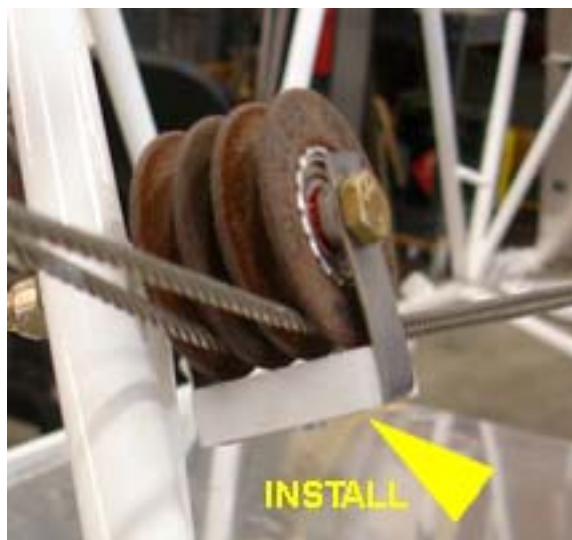

Fig. 5
- (c) Install new one piece dual pulley guard Part Number 50197-7 as shown in Fig. 5.